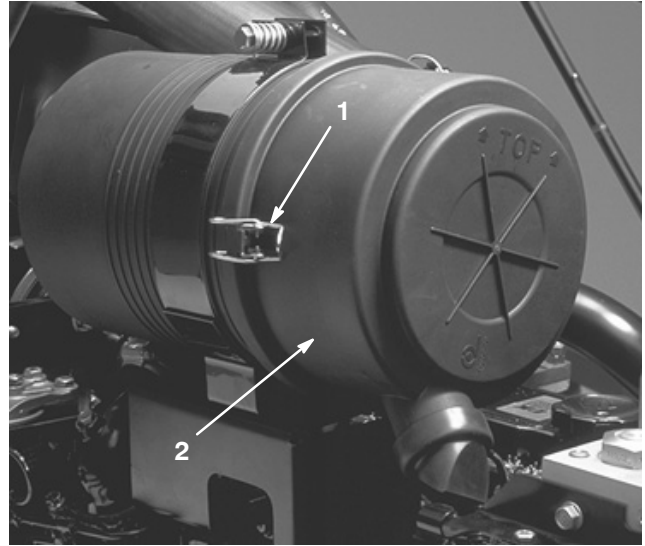

Figure 48
1. Release latches securing air cleaner cover to air cleaner body (Fig. 48). Separate cover from body. Clean inside of air cleaner cover.